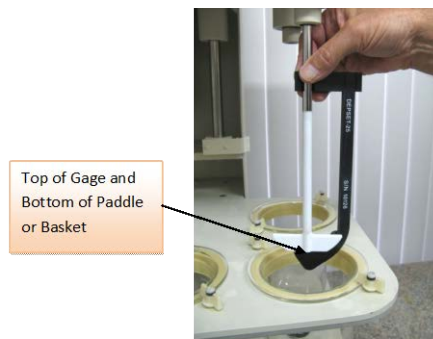

Figure 8
4.3.1 The paddle or basket height can be set by placing the 25mm depth gage, (Part Number DEPSET-25) onto the paddle or rotating basket assembly by holding the support arm onto the drive shaft and making sure the top of the gage is touching the bottom of the paddle blade or rotating basket as shown in Figure 8.